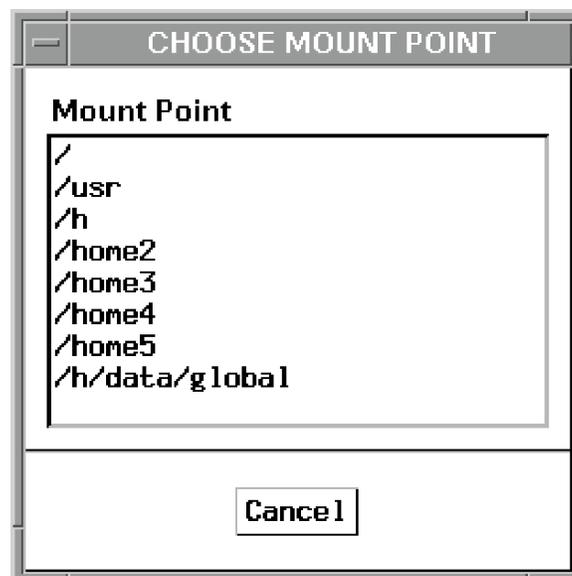

Figure 10. CHOOSE MOUNT POINT Window
- (b) Toggle on the `Popup` checkbox to the left of the `MOUNT POINT` field to open the `CHOOSE MOUNT POINT` window (Figure 10). Click on a mount point from the scroll list to select it. The `MOUNT FILE SYSTEM` window reappears with the new mount point in the `FILE SYSTEM` field.
(b) Toggle on the `Popup` checkbox to the left of the `MOUNT POINT` field to open the `CHOOSE MOUNT POINT` window (Figure 10). Click on a mount point from the scroll list to select it. The `MOUNT FILE SYSTEM` window reappears with the new mount point in the `FILE SYSTEM` field.